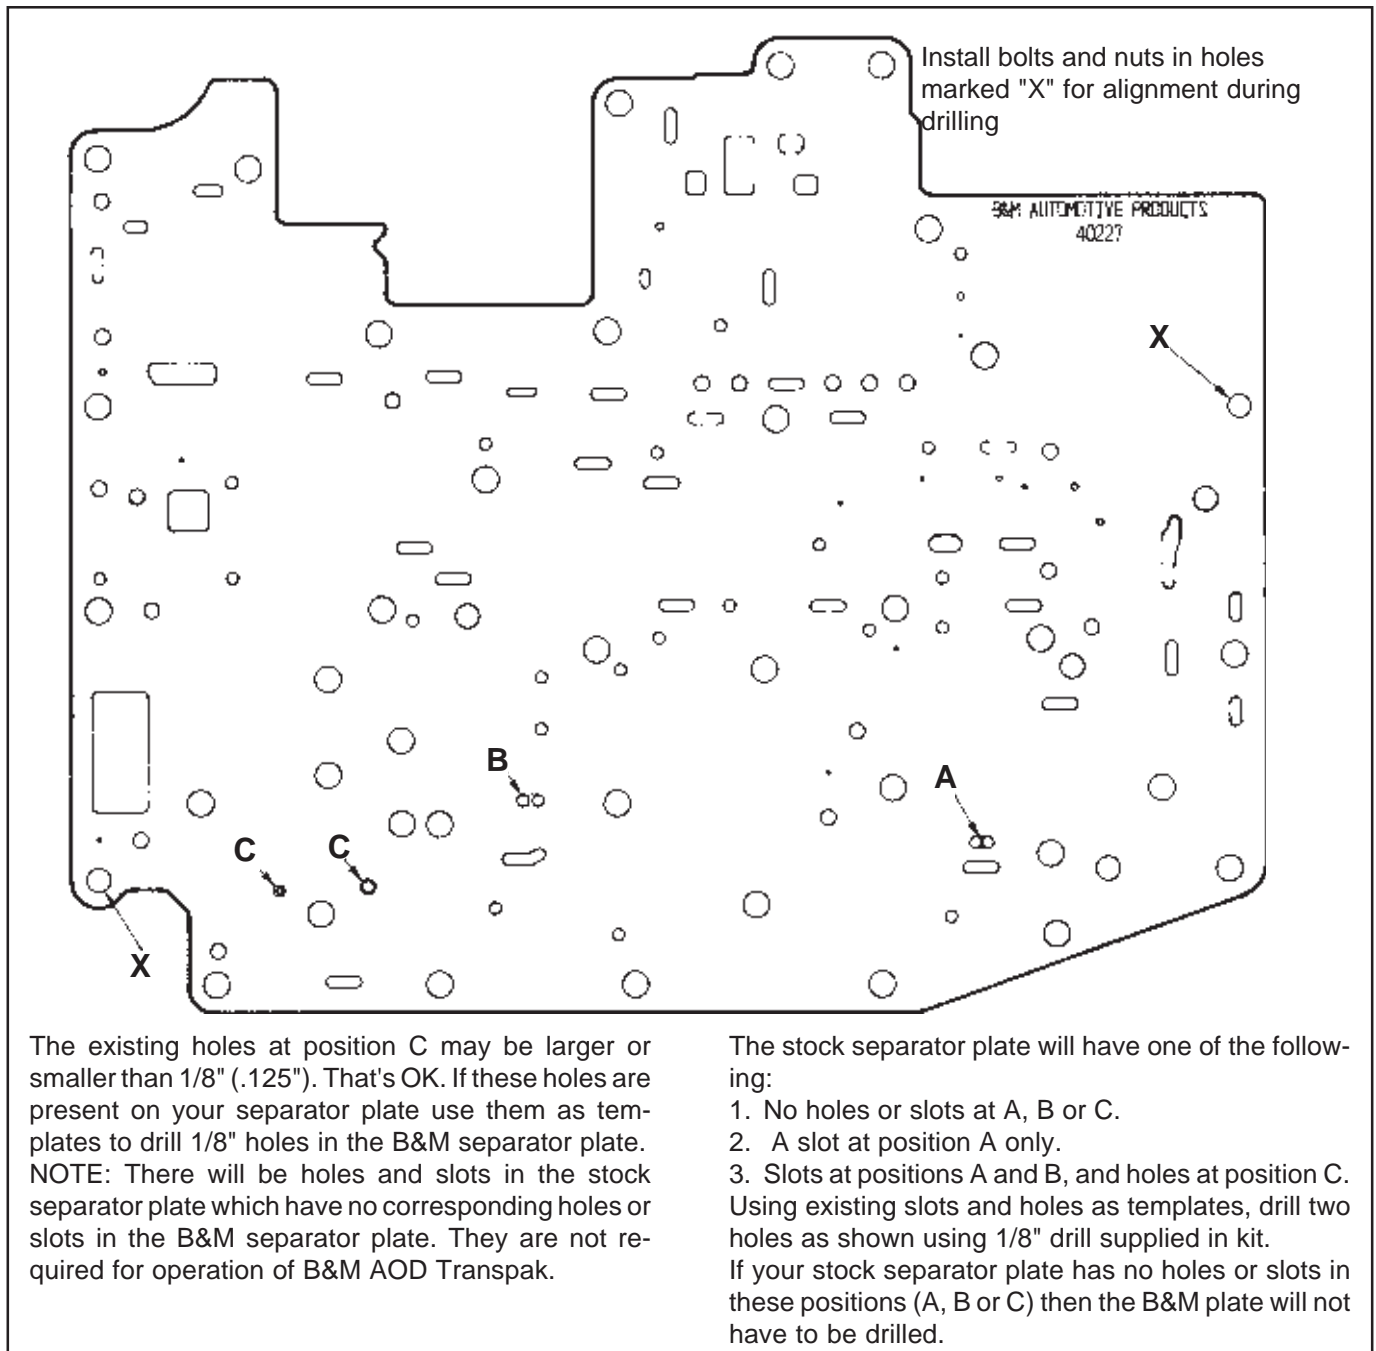

Figure 5
shown. (See Fig 5.) Align both separator plate holes and tighten the (2) bolts until they are just snug.
STEP 9. Using the stock separator plate as a template drill holes in the **B&M** AOD separator plate as indicated in **Figure 5**.